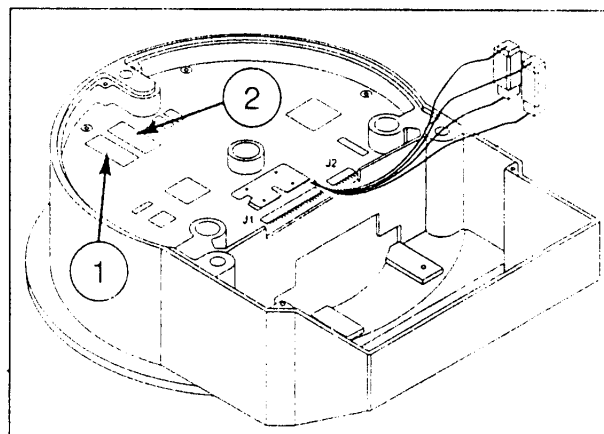

Fig. 5: Mounting the Resistor Mount Clip and CNGC Library Chips. (1) "U2" socket; (2) "U3" socket.
5. Peel off the tape backing on the resistor clip and press the assembly onto the side wall on the inside of the drive base (Fig. 5). Make certain that the resistor assembly is down deep enough such that the wires of the resistors will not extend above the electronics cover plate.
7. On the new PCB, locate the two empty sockets, labeled "U2" (1, Fig. 5) and "U3" (2, Fig. 5).
8. The chips from the old PCB, are marked with either an "O" (for odd) or "E" (for even). Using the static electricity precautions described on page 1, locate the "O" chip. Insert the "O" chip into the "U3" socket (2, Fig 5) using the following procedures:
9. Install the "E" chip into the "U2" socket (1, Fig. 5) using the procedures listed above in step 8.